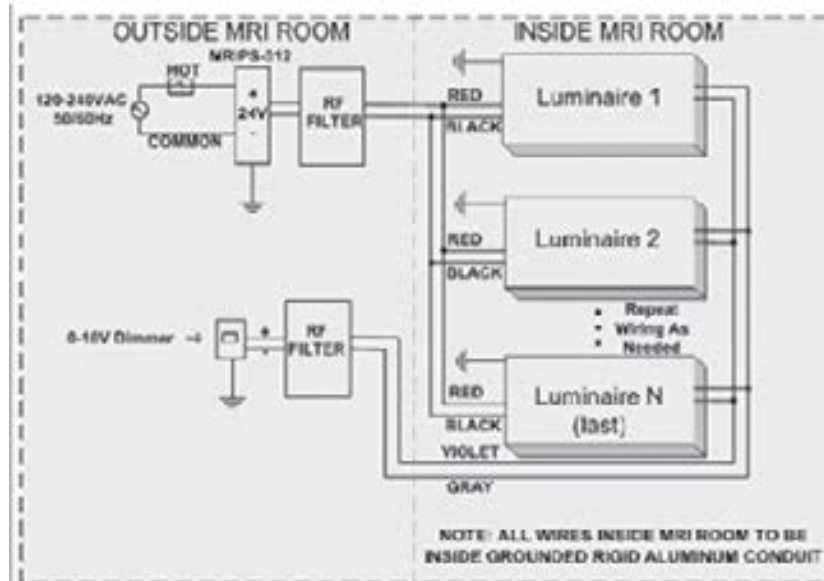

FIGURE 4
4. Run the 24VDC supply from the EMI filter to the luminaire(s) using at least 18 AWG wires rated at least 90C. See Figure 4. Class 1 wiring is required. Make sure wiring is completely enclosed in grounded aluminum conduit. Any gaps, regardless of size, must be closed or wrapped in copper foil tape. Special attention should be paid to the wiring entry point into the shielded space.
- 7. Make DC supply and (optional) dimmer control connections within each luminaire. Cap gray and violet leads if dimmer is not connected. See Figure 4.